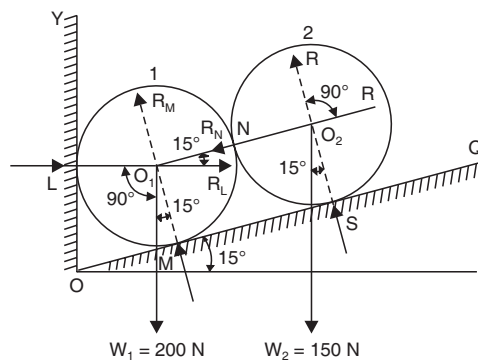

Fig. 2.44
**Example 2.27.** The cylinders shown in Fig. 2.44 have the same diameter but the cylinder '1' weighs 200 N and cylinder '2' weighs 150 N. Find the reactions at the supports.
**Sol.** Refer to Fig. 2.44.